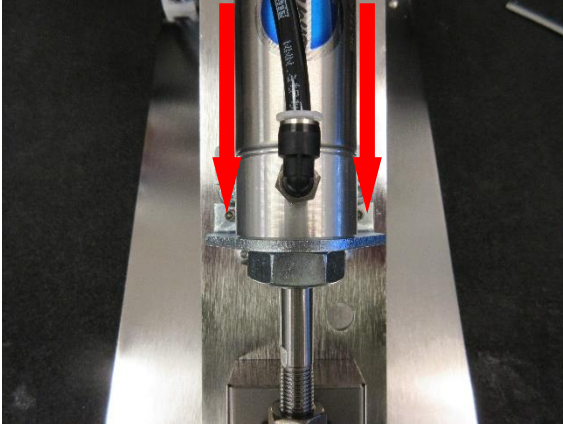
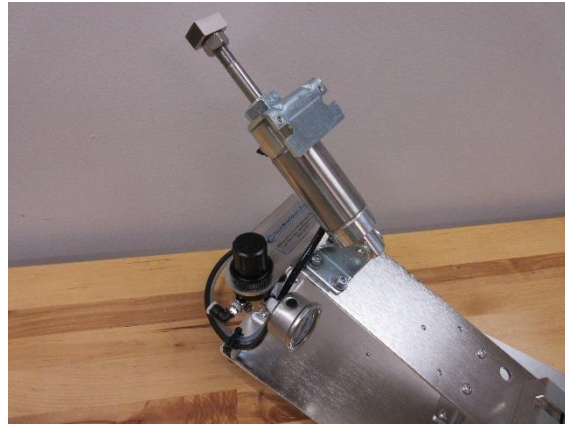

Figure 3.2.4
Figure 3.2.5
- Now remove the two 6x12mm screws holding the front cylinder mount bracket using a 5mm hex wrench. *Figure 3.2.4*. Rotate the cylinder backwards until it stops. *Figure 3.2.5*